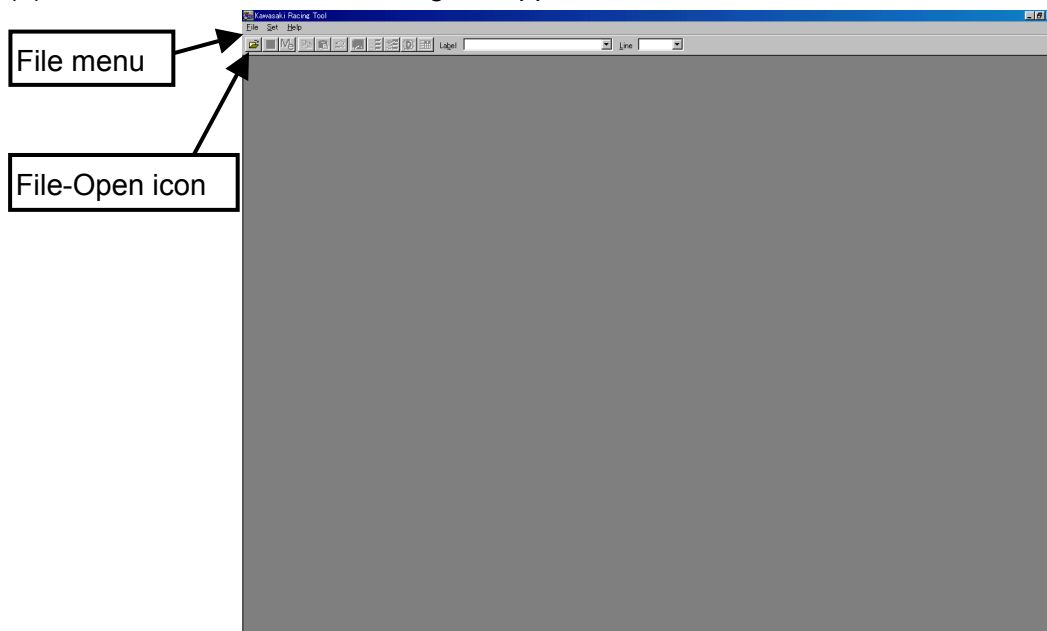

Fig. 16 Initial Screen
- (3) The initial screen shown in Fig. 16 appears.